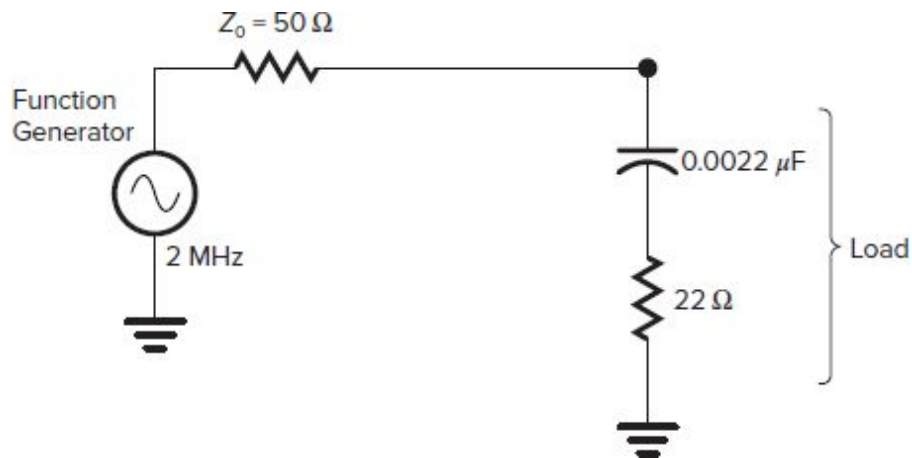

Fig. 8-11 Transmitter with reactive load.
8. Connect the circuit as shown in Fig. 8-11. Set the open-circuit generator output to $10 V_{p-p}$ before you connect the load. Measure the voltage across the resistor and calculate the output power. Is maximum power being delivered?